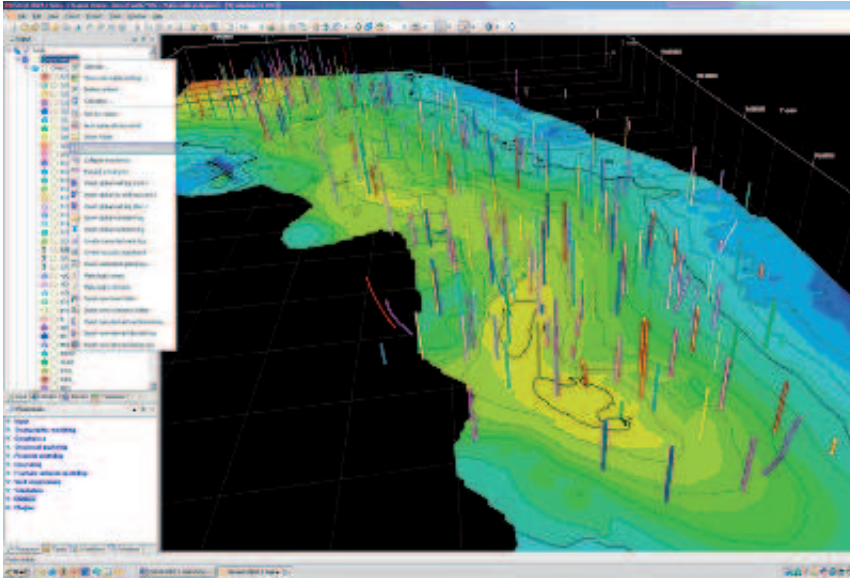

Figure 3: 3D window illustrating “Paste as derived log template” option
Step 3: Right-click on the Global well logs icon and select "Paste as derived log template". This will create a new log called "GR [Derived] 1" (see Figure 3 overleaf).